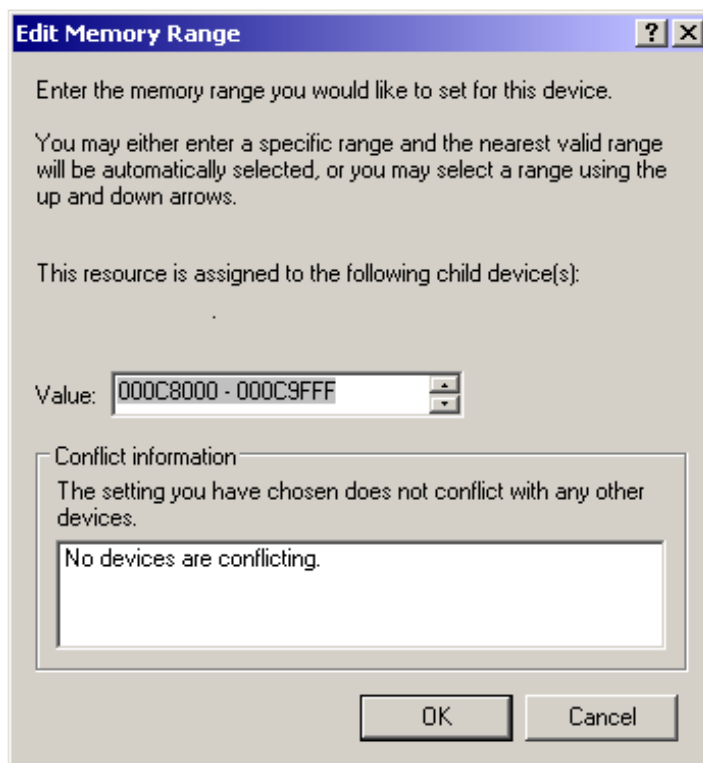

FIGURE 201. Edit Memory Range window
47. This will bring up the Edit Memory Range window as shown in Figure 201.